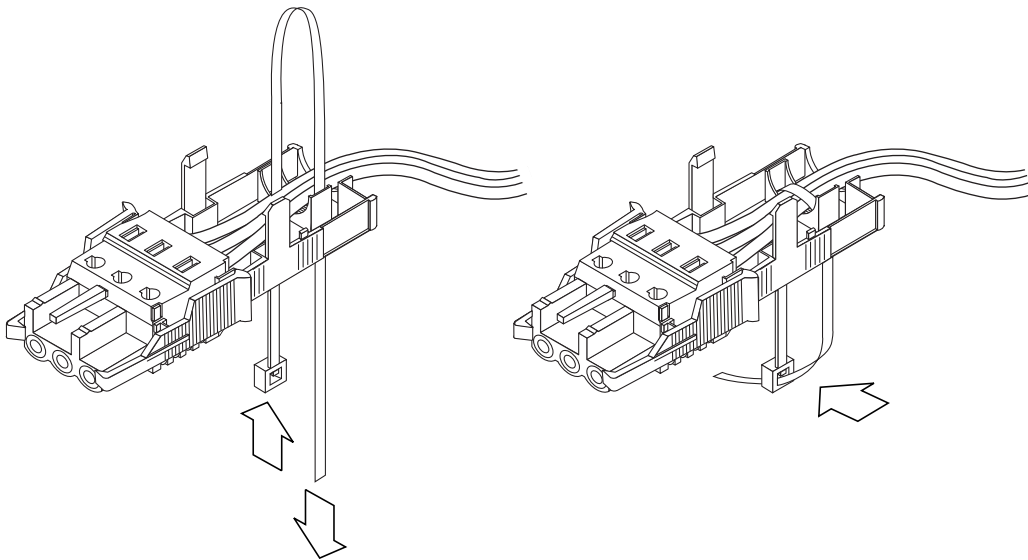

FIGURE 6-20 Securing the Wires to the Strain Relief Housing
4. Loop the tie wrap over the wires and back out of the strain relief housing, then tighten the tie wrap to secure the wires to the strain relief housing (**FIGURE 6-20**).